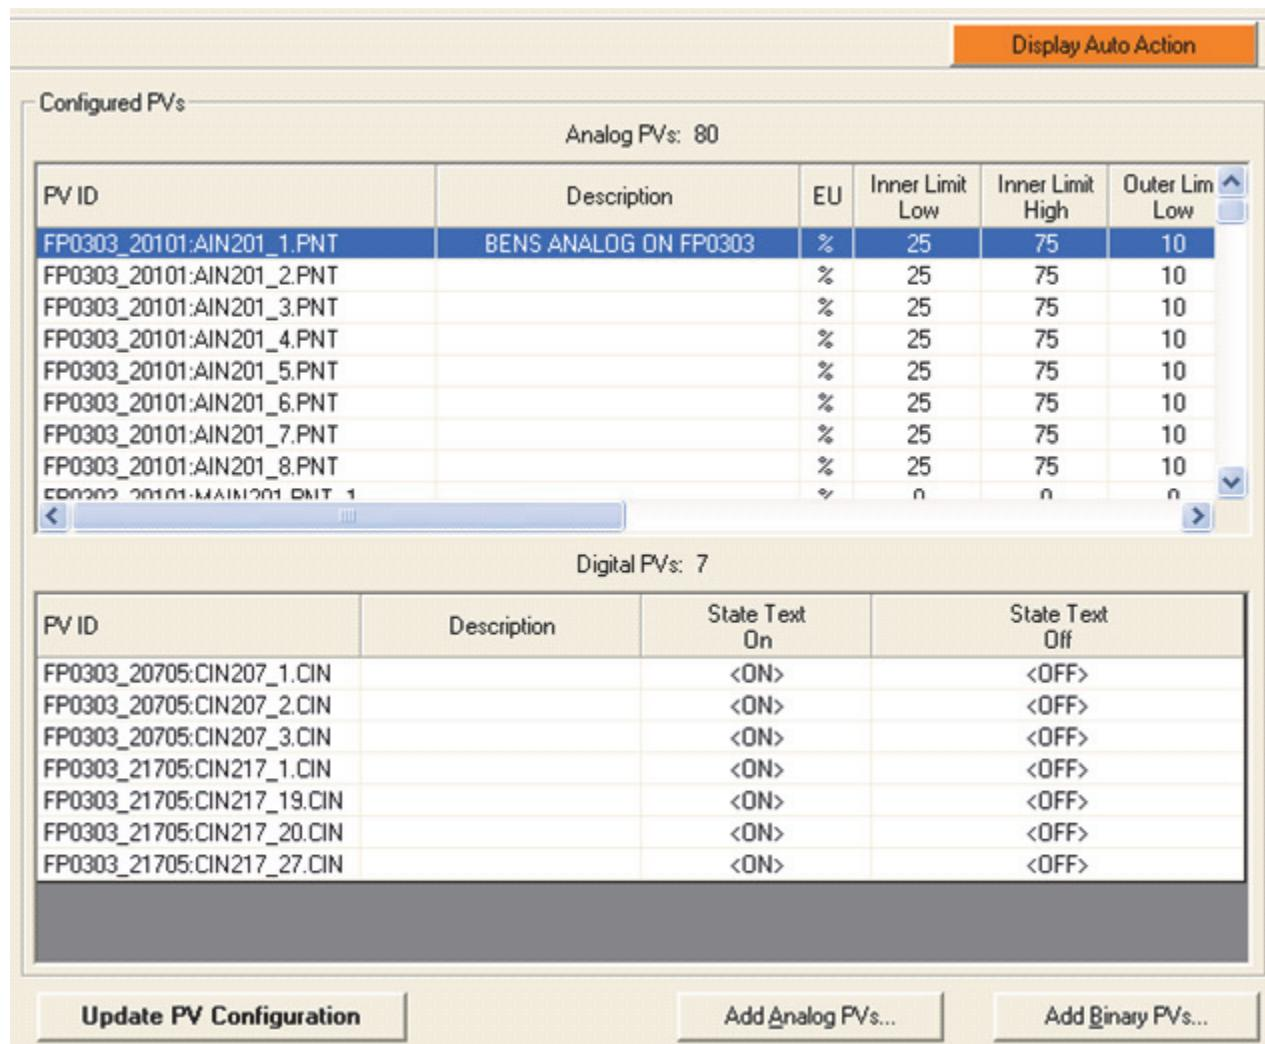

Figure 3-6. PV Configuration Window
6. The PV configuration appears as shown in Figure 3-6 with analog PVs at the top and binary PVs at the bottom of the window.
The PVs shown in Figure 3-6 contain the parameters that were set up when you configured the blocks and compounds for your system.
The Trigger Expression Editor opens, as shown in Figure 3-6.